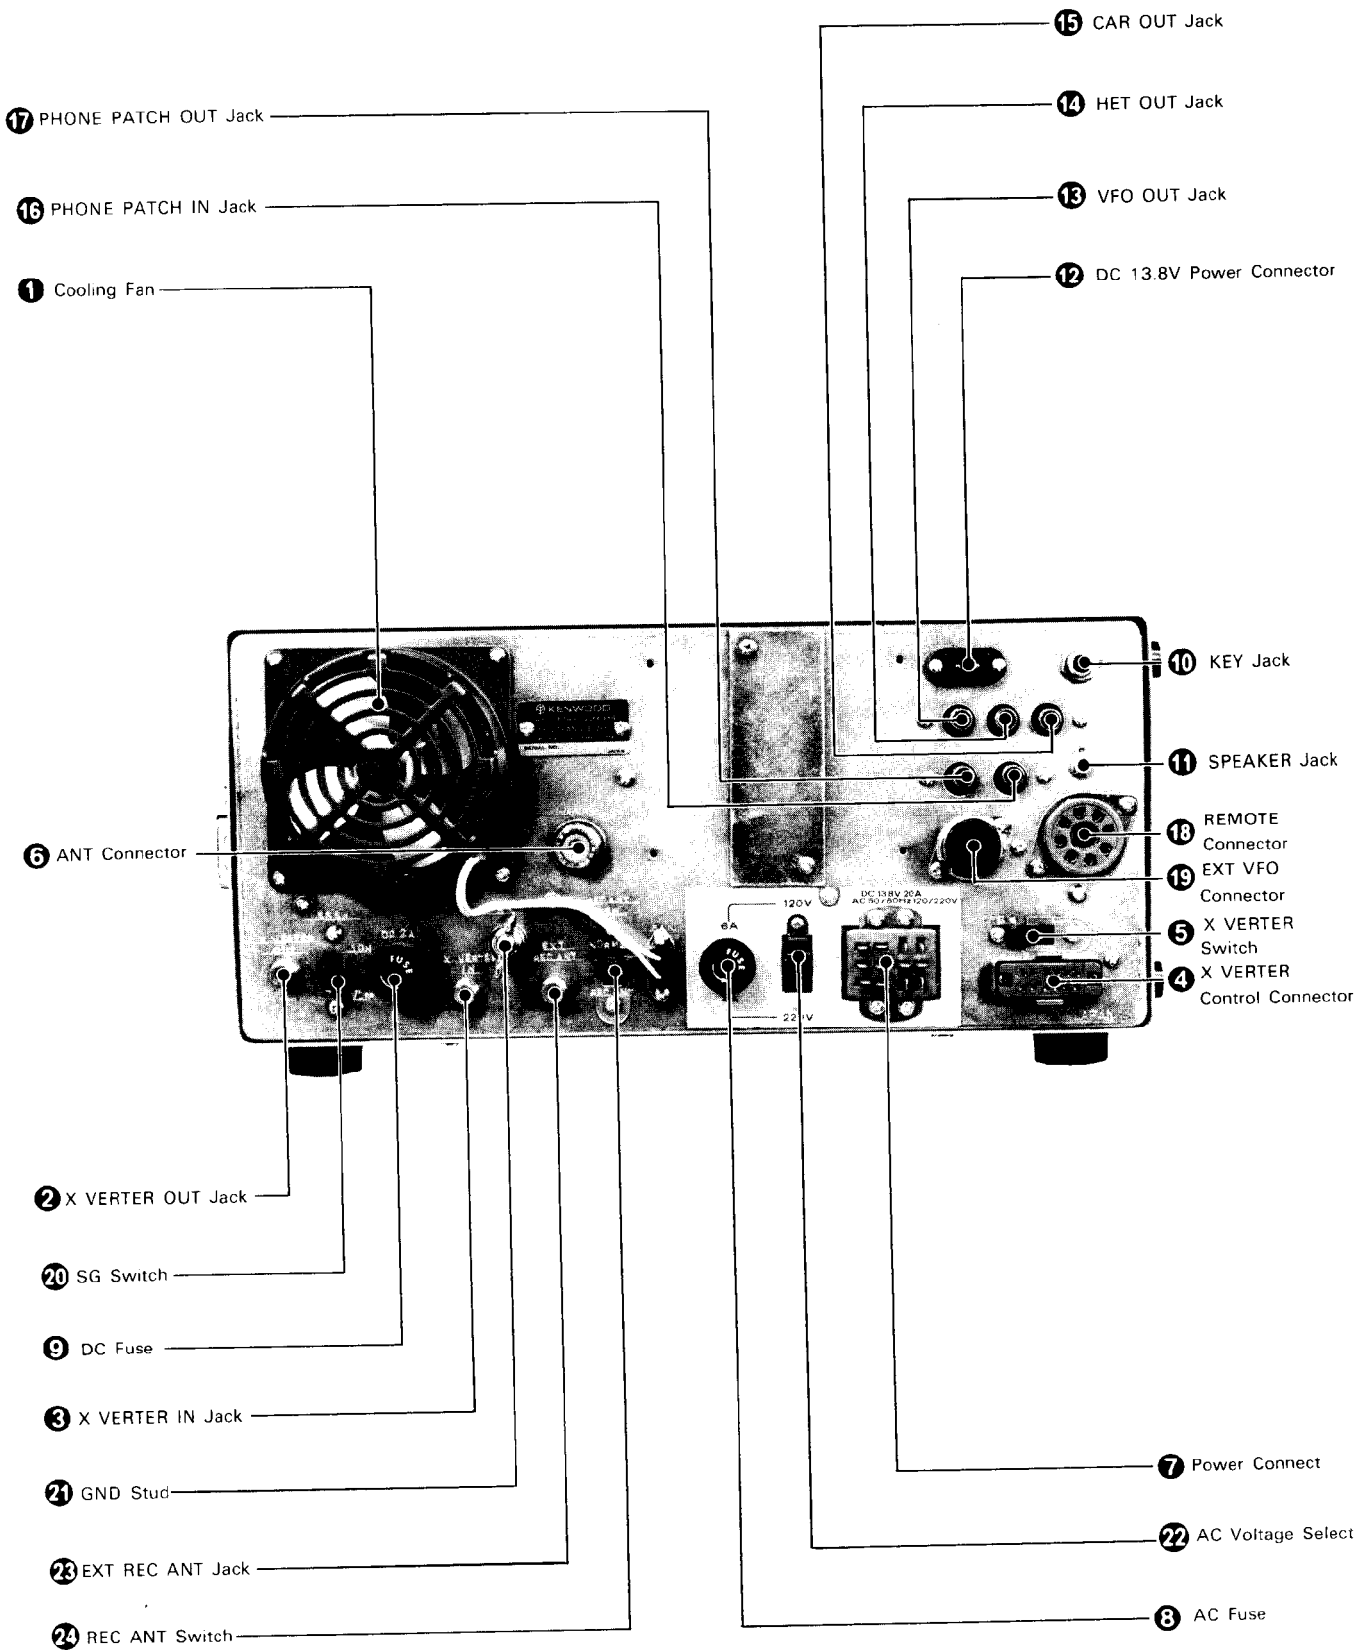

Fig. 7 Rear Panel Controls
3.3 REAR PANEL CONTROLS (See Figure 7)
■ **COOLING FAN** (1 on Figure 7)
■ **TRANSVERTER OUT JACK** (2 on Figure 7)
■ **TRANSVERTER IN JACK** (3 on Figure 7)
■ **TRANSVERTER CONNECTOR** (4 on Figure 7)
■ **X VERTER SWITCH** (5 on Figure 7)
■ **ANTENNA CONNECTOR** (6 on Figure 7)
■ **POWER SUPPLY CONNECTOR** (7 on Figure 7)
■ **AC FUSE** (8 on Figure 7)
■ **DC FUSE** (9 on Figure 7)
■ **KEY JACK** (10 on Figure 7)
■ **SPEAKER JACK** (11 on Figure 7)
■ **13.8V DC CONNECTOR** (12 on Figure 7)
■ **VFO OUT JACK** (13 on Figure 7)
HET OUT JACK (14 on Figure 7)
CAR OUT JACK (15 on Figure 7)
■ **PHONE PATCH IN JACK** (16 on Figure 7)
■ **PHONE PATCH OUT JACK** (17 on Figure 7)
■ **REMOTE CONNECTOR** (18 on Figure 7)
■ **EXTERNAL VFO CONNECTOR (19 on Figure 7)**
■ **SG SWITCH (20 on Figure 7)**
■ **GND (Ground) LUG (21 on Figure 7)**
■ **AC VOLTAGE SELECT SWITCH (22 on Figure 7)**
■ **EXTERNAL RECEIVER ANTENNA JACK (23 on Figure 7)**
■ **RECEIVER ANTENNA SWITCH (24 on Figure 7)**